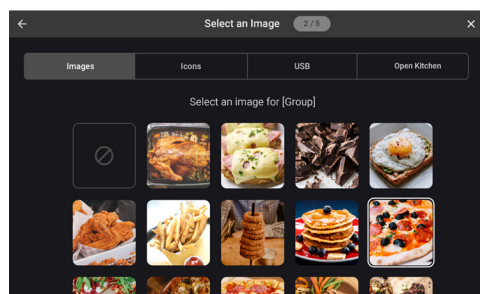

Figure 29: Select Image for New Recipe
- Select an image and touch the blue “Next” button (Figure 29, below).